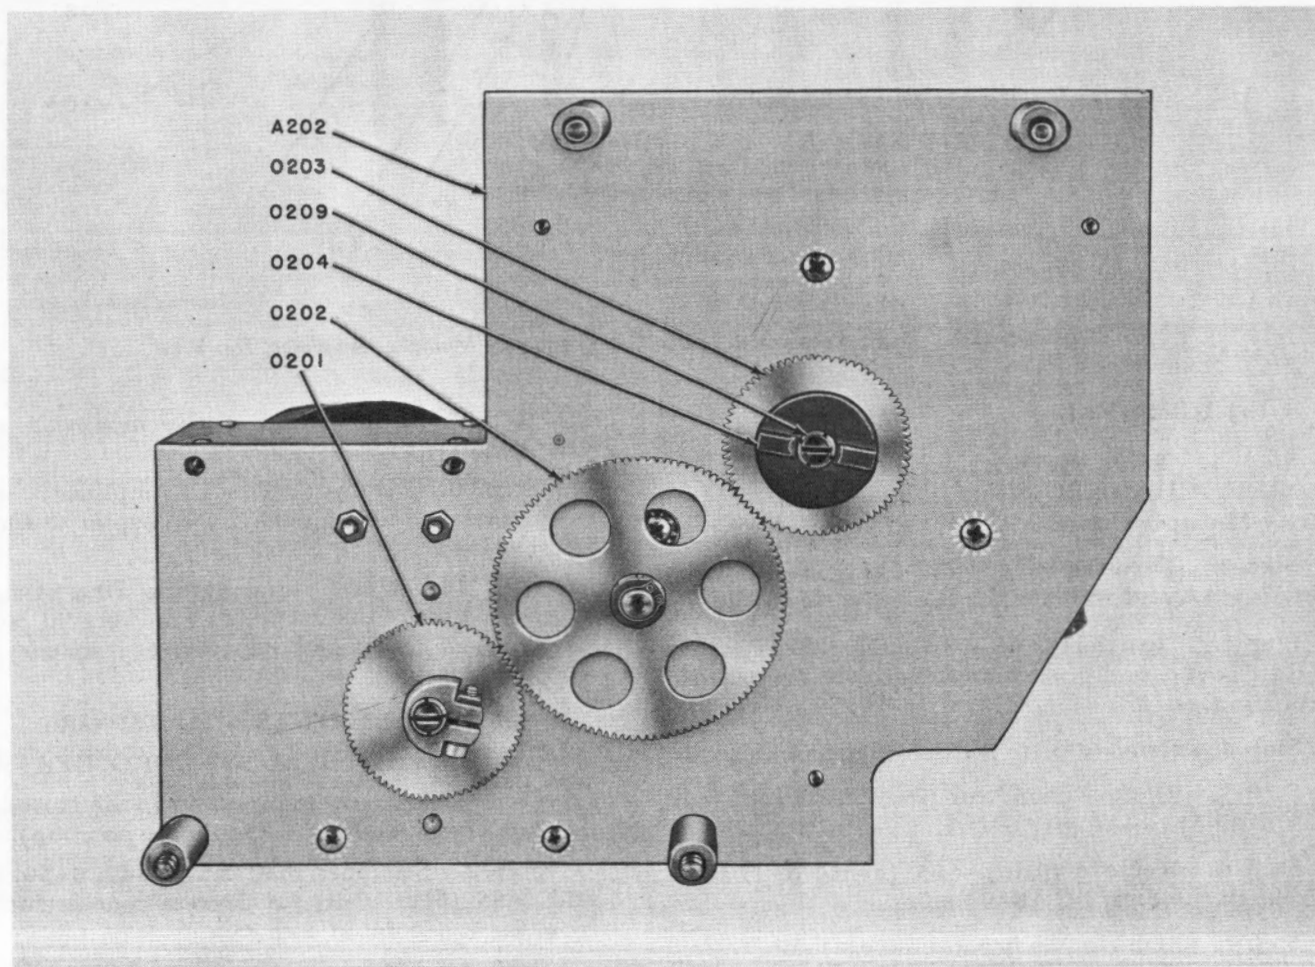

Figure 6-33. Radio Receiver R-278B/GR, Main Oscillator, Bottom View
Step 3. With red dot down, set the key of coupler 0204 (figure 6-33) in the vertical position.